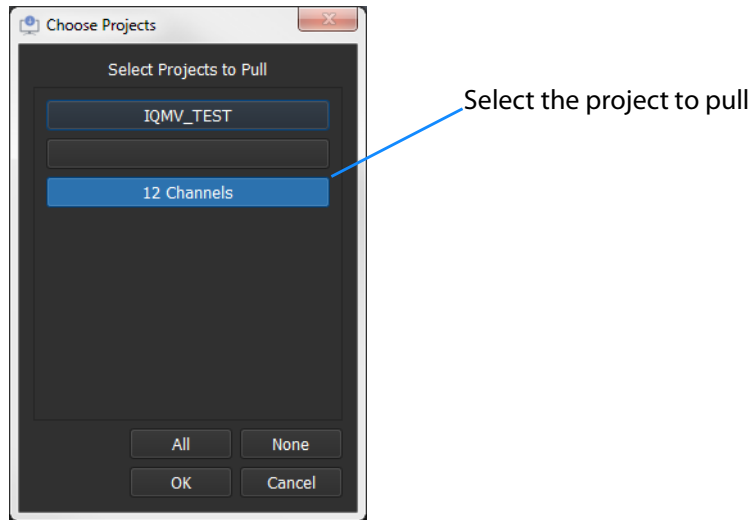

Fig. 7-19: Choose Projects Dialog
- 4 Select the project in the **Choose Projects** dialog (see Figure 7-19) and click **OK**.